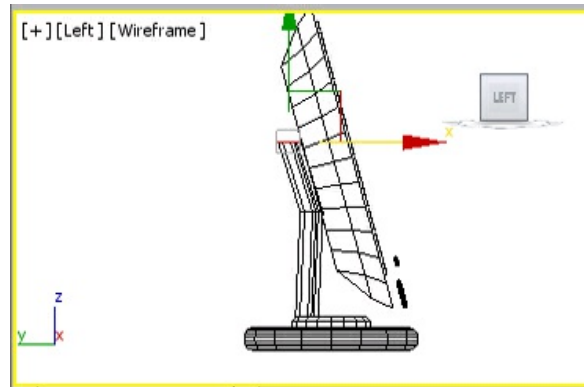

Figure 8-156 The selected polygons of support in the Left viewport
24. In the Left viewport, move the cursor over the horizontal axis, and drag the selected polygons horizontally toward the left to align them with *LCD monitor*, as shown in Figure 8-156.